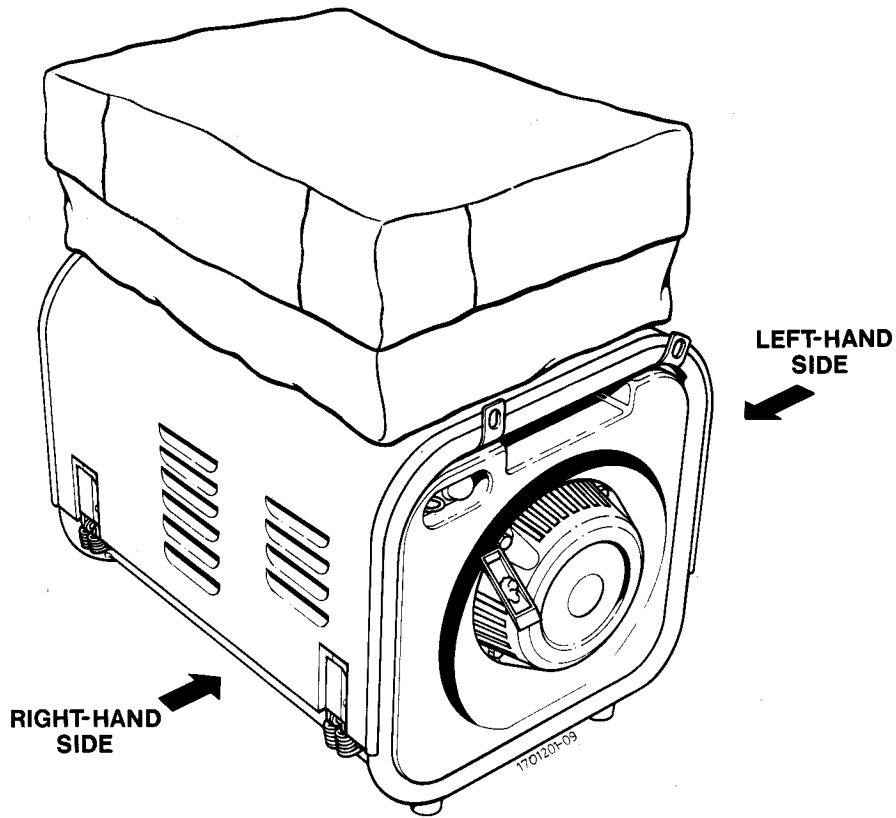

Fig 1 Generator set - Three-quarter rear view
- 1 The 14/28 V, 300/500 W generator set is intended to provide a portable d.c. source for charging lead-acid batteries in the field. It may also be used as a general purpose d.c. source. General views of the generator set are shown in Figs 1 and 2. These diagrams also indicate the generator set orientation and should be referred to when explanations of component locations are given.